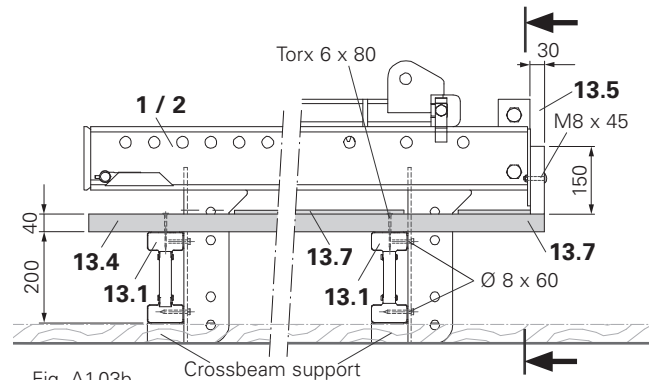

Fig. A1.03b
5. Fix each plank with 4 Torx 6 x 80 (2x per crossing with VT 20) to the VT 20. (Fig. A1.03b)
- Fix Toe Board with F.H. Bolt M8 x 45 MU to Crossbeam. (Fig. A1.03b)
5. Fix each plank with 4x Torx 6 x 80 (2x when crossing the timber) to the timber. (Fig. A1.03b)
- Fix Toe Board to the crossbeam using F.H. Bolt M8 x 45 MU. (Fig. A1.03b)